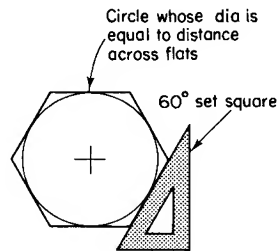

Fig. 3.19
- (b) To construct a hexagon using set squares. This method is used when the distance across flats is given. The diagram (Fig. 3.19) shows how to construct the hexagon.